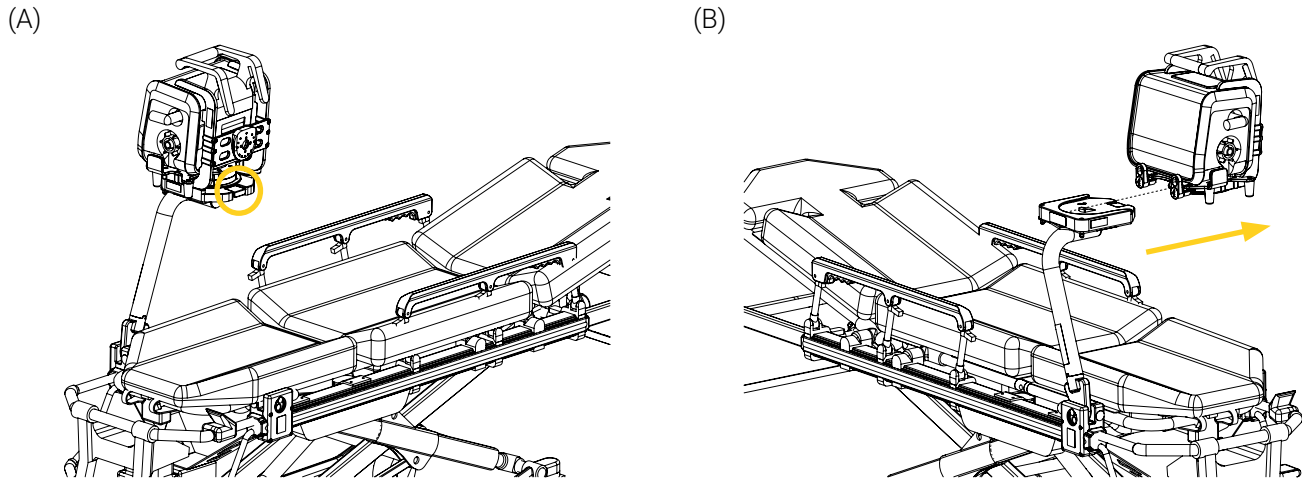

Figure 19: Removing the medical device from the SAS 500
1. Press and hold the quick release button located of the SAS 500 (Figure 19 A), then slide the standard bottom disc located under the medical device's mounting bracket out of the mounting system horizontally (Figure 19 B).